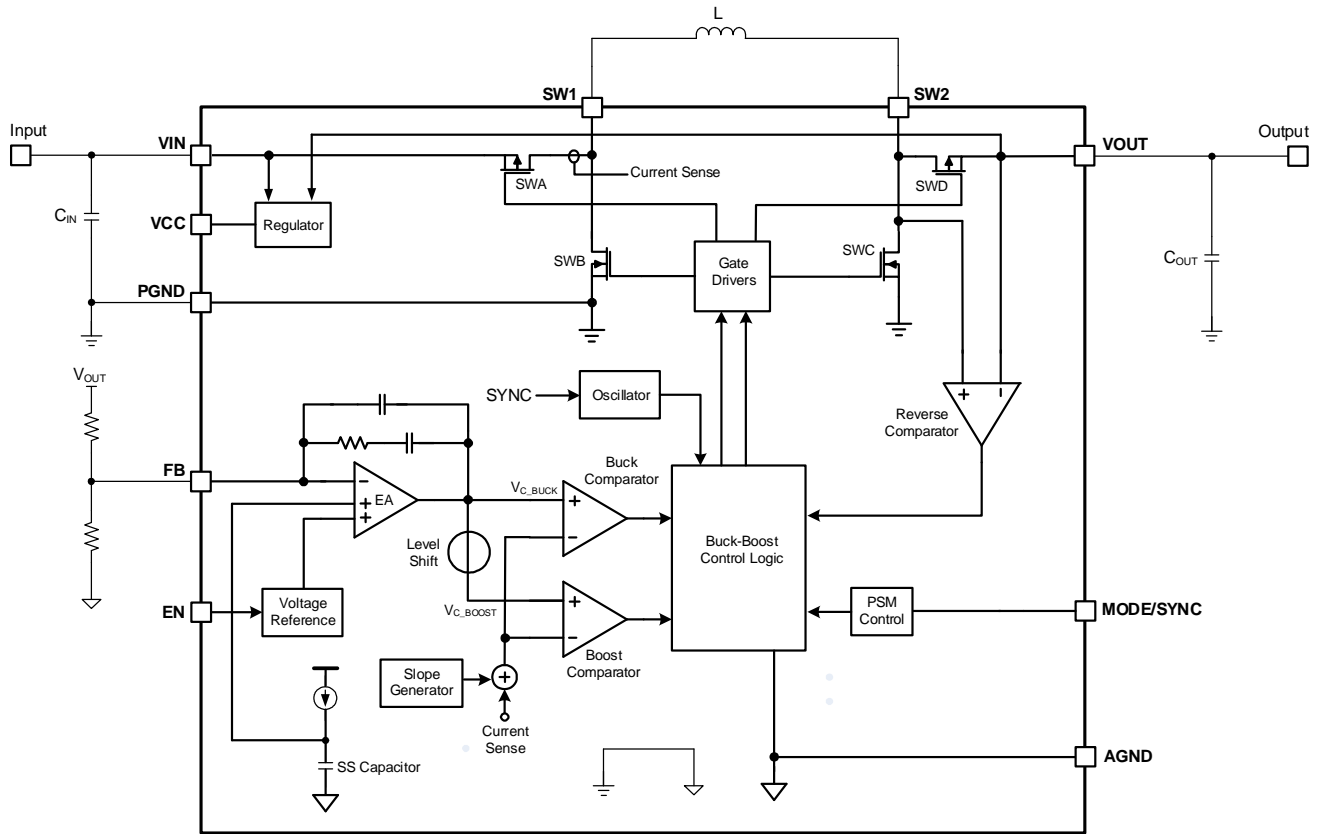

Figure 1: Functional Block Diagram
The MP28162 is a high-efficiency, dual-mode, buck-boost converter that provides an output voltage (V_{OUT}) exceeding, below, equal to the input voltage (V_{IN}). V_{OUT} is sensed via the FB pin through an external resistor divider connected from the output to ground (see Figure 1 on page 12). The difference between the FB pin voltage (V_{FB}) and the internal reference voltage (V_{REF}) is amplified by the error amplifier (EA) to generate a control signal (V_{C_BUCK}). By comparing V_{C_BUCK} with the internal current ramp signal (the sensed SWA current with slope compensation) via the buck comparator, a pulse-width modulation (PWM) control signal for the buck legs (SWA and SWB) is generated.